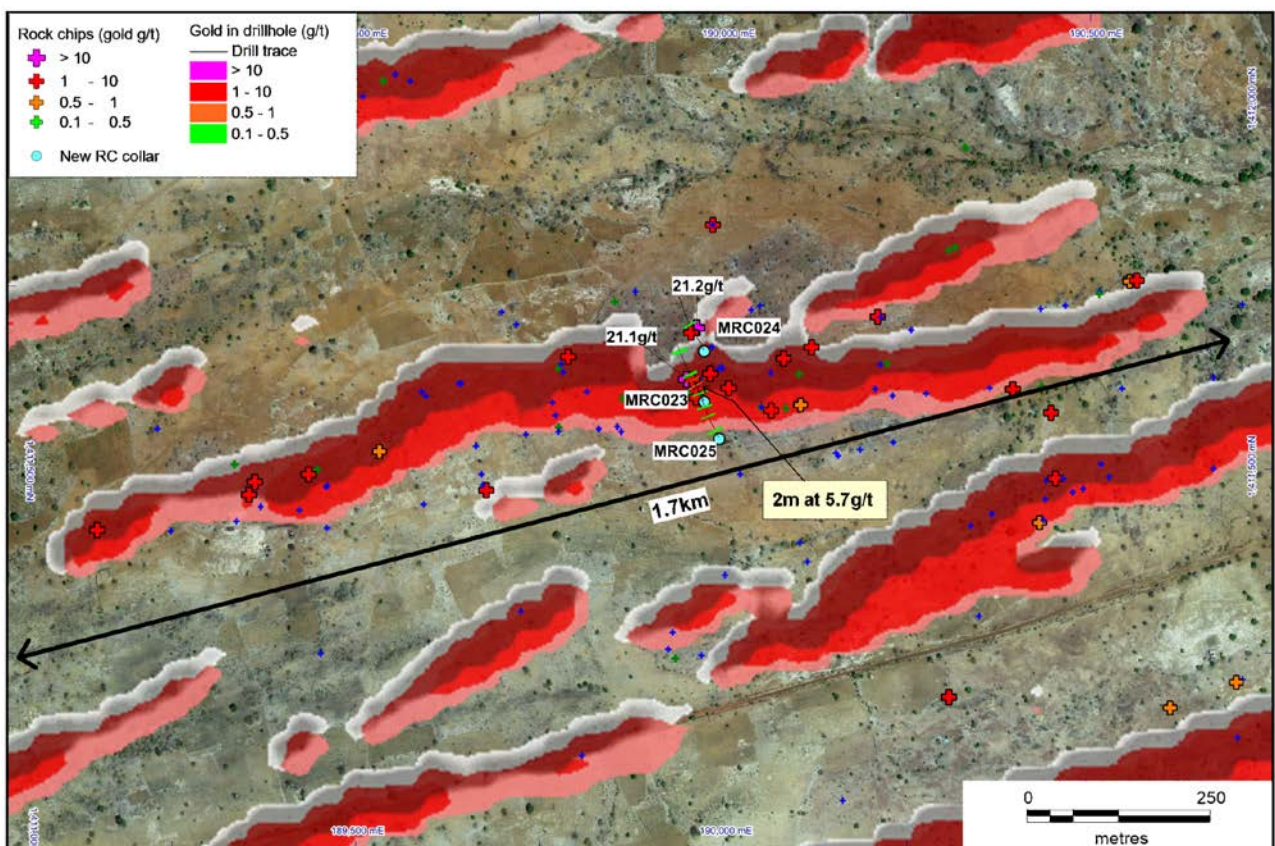

Figure 4. Location of drill holes at the Diabatou East Prospect over a combined IP geophysics and satellite image.
At the Diabatou East Prospect a line of 3 RC holes for 384m (MRC023 – 025) was completed to test a zone that returned high-grade rock chips (up to 21.2g/t gold) and corresponded to an Induced Polarisation (IP) chargeability-high anomaly (Figure 4). Significant results include: